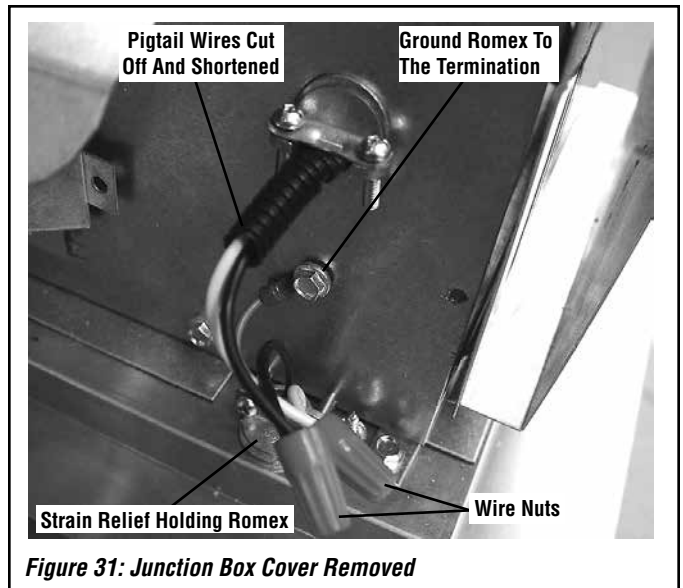

Figure 31: Junction Box Cover Removed
4. Connect the black power supply wire to the power outlet's red pigtail lead and the white power supply wire to the common terminal of the outlet as shown in Figures 31 and 32.
- Refer to Figure 31 to connect the three wires of the Romex cable to the termination. Ensure the ground ring terminal is grounded beneath a structural screw as shown. Attach the junction box cover to the termination with the screw previously removed.